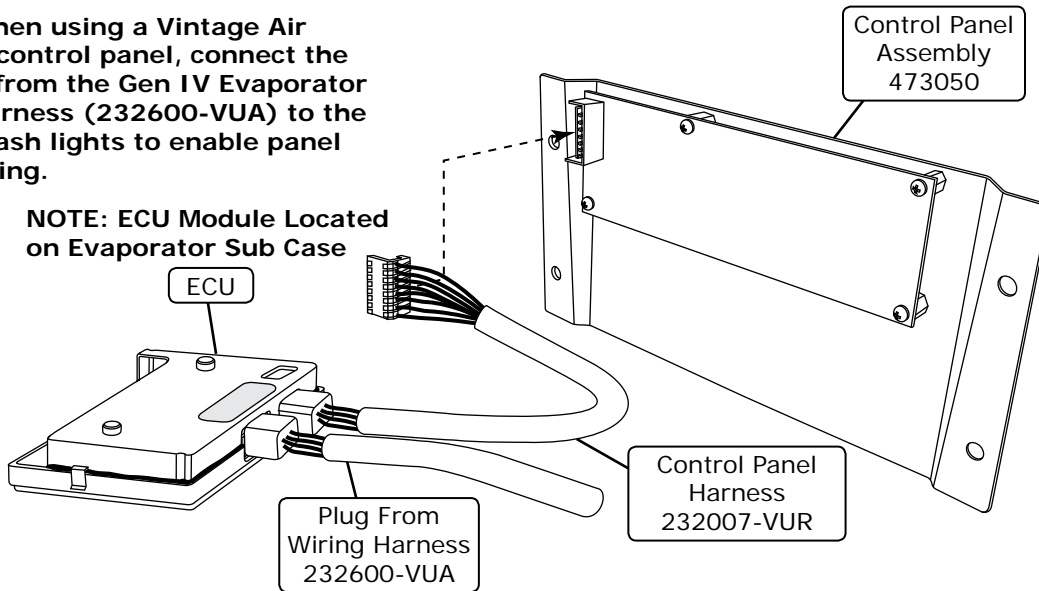

Figure 3
1. Feed control panel harness through dash and out control panel opening in dash. Plug the control panel harness into the ECU as shown in Figure 3, below. Plug the opposite end of the harness into the control panel PC board as shown in Figure 3, below.